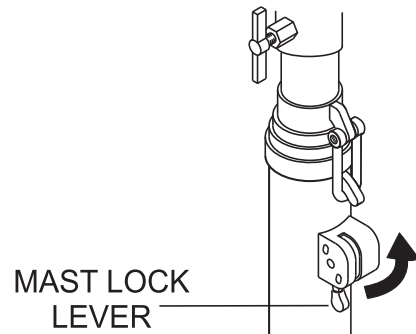

Figure 12. Mast Lock Lever
7. When the desired height is achieved, lock the mast in place with the Mast Lock Lever (Figure 12).
4. When the mast is fully lowered, lock the mast in place with the Mast Lock Lever (Figure 12).